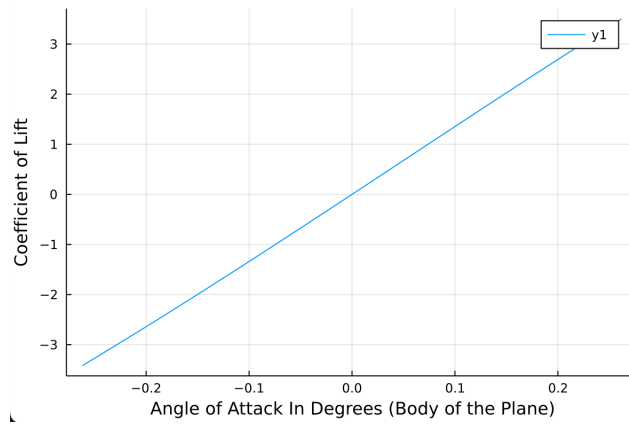

Figure 12: Lift vs. Angle of Attack (Radians)
- Figure 12 shows that as the angle of attack changes, the coefficient of lift changes in a linear manner. More specifically, the coefficient of lift changes with a slope of 2π .